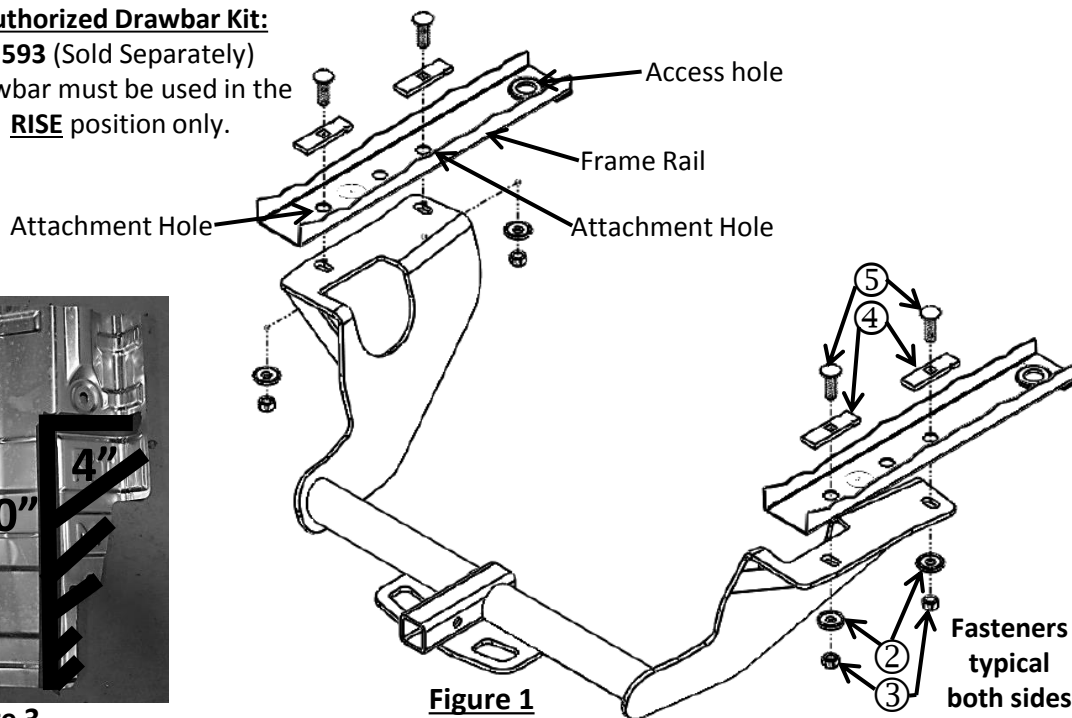

Figure 1
- 4. Install fasteners** – Feed the coiled end of pull wire ① through the attachment holes and out of the forward most access hole in the bottom of frame. Attach item ⑤ and ④ to the pull wire and pull the fasteners into position, both sides. See figures 1 and 2.
- 6. Install hitch** – Raise hitch into position being careful not to push fasteners back into the frame. **Note:** Leaving the pull wire attached to the fasteners and routing them through the attachment holes on the hitch will help prevent pushing them into the frame. Loosely install items ② and ③ onto items ④ and ⑤ installed in step 4.
- 8. Raise muffler** – Raise muffler back into position and reattach rubber hangers, (2) per side and (1) in the middle.